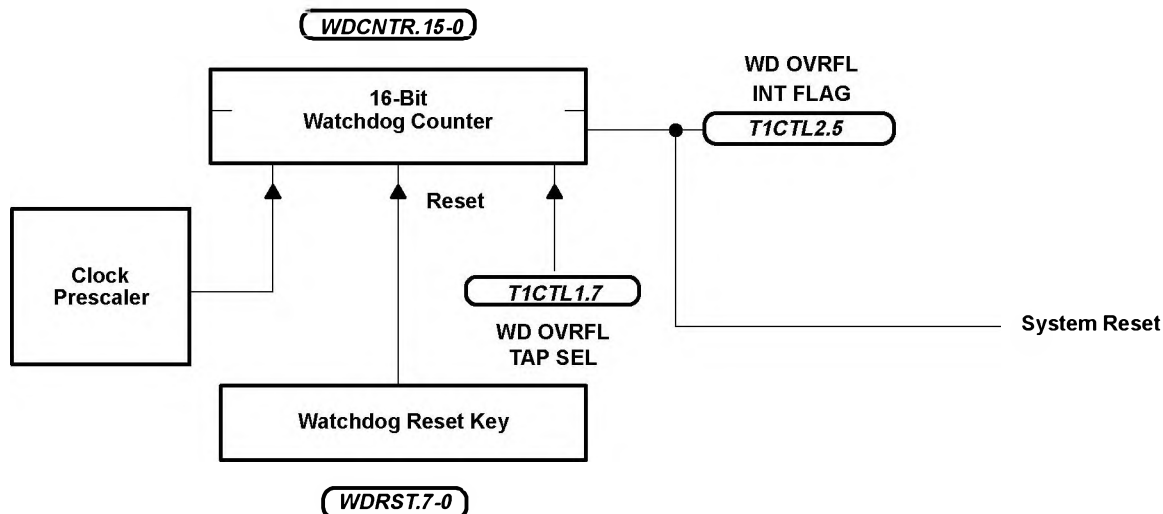

Figure 10. Hard Watchdog
- Hard watchdog configuration (see Figure 10) – for 'C75xB EPROM and mask-ROM devices